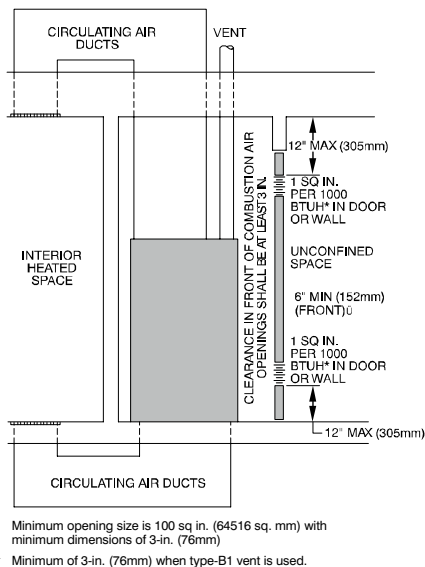

Fig. 9 – Air for Combustion, Ventilation, and Dilution from Indoors
- b. Combining spaces on same floor level. Each opening shall have free area of at least 1 in.2/1,000 Btuh (2,000 mm2/kW) of the total input rating of all gas appliances in the space, but not less than 100 in.2 (0.06 m2). One opening shall commence within 12 in. (300 mm) of the ceiling and the second opening shall commence within 12 in. (300 mm) of the floor. The minimum dimension of air openings shall be at least 3 in. (80 mm), see Fig. 9.